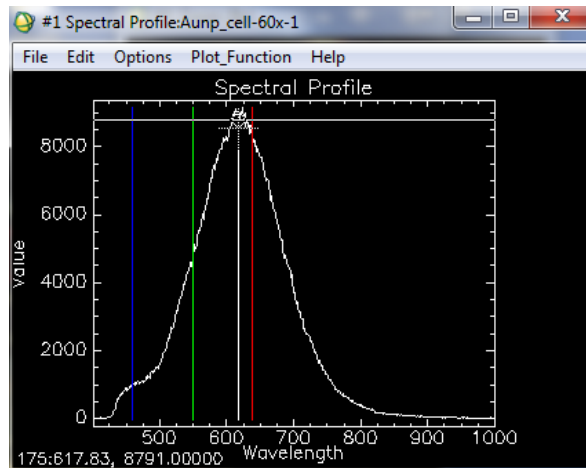

Figure 3.2b. Plots using the spectral profile tool
- Left click in the zoom window to obtain the spectra of the pixel under the cursor in the spectral profile window (Figure 3.2b).